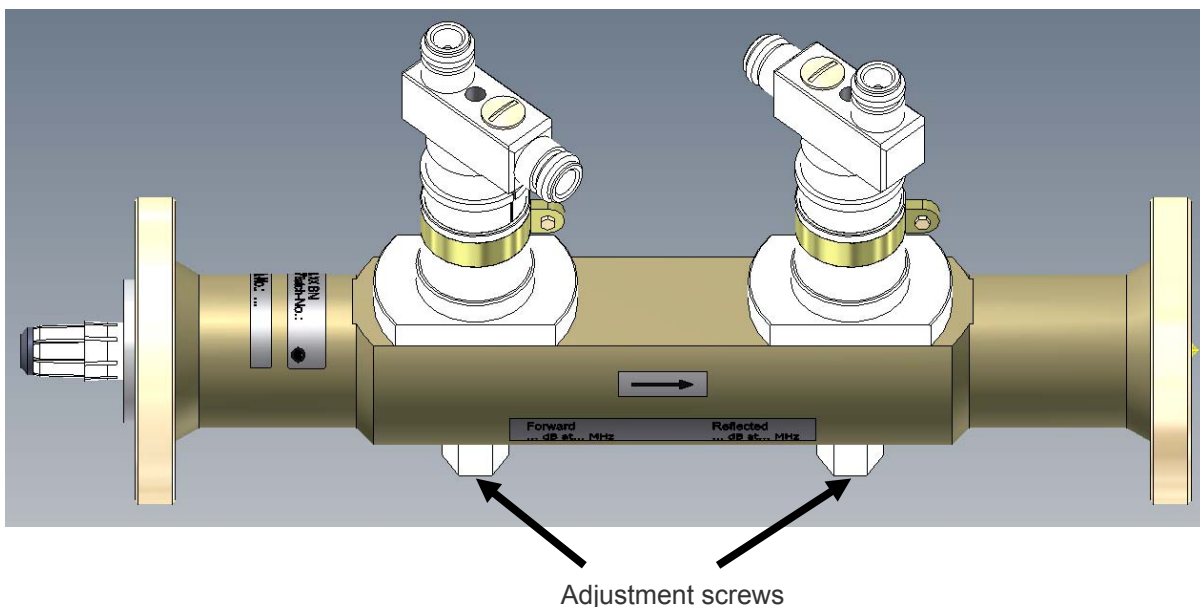

Figure 6: Adjustment screws to minimize the VSWR of the main line, shown for BN 800264
3. If available, use adjustment screws to minimize the VSWR of the main line, refer to figures 6 - 8